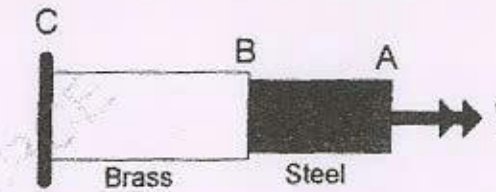

Fig. 4
b) Two rods, steel (AB) of diameter 38 mm and brass (BC) of diameter 46 mm connected together as shown in Fig. 4. If allowable shear stresses in steel and brass rods are 104 MPa and 55 MPa, find largest torque T applied at A. [12]